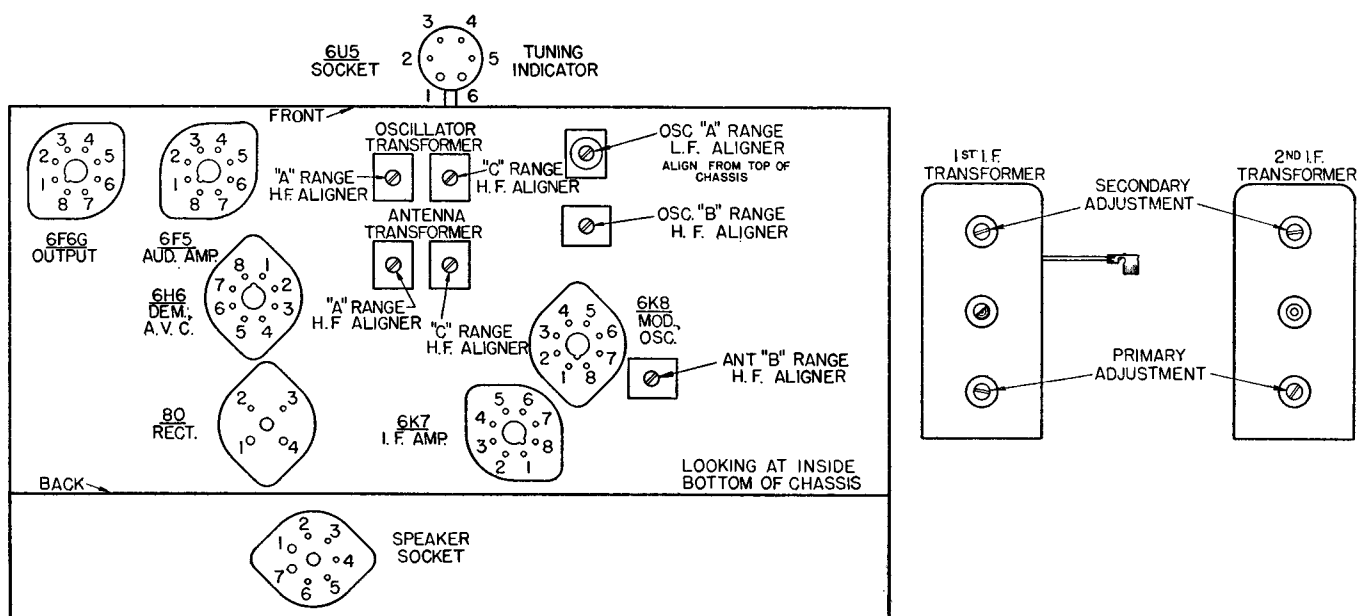

Fig. 1. Terminal Layout for Voltage Measurement Chart and Location of the Aligning Capacitors.
The values of voltages listed in the following table are obtained by measuring between the various tube socket contacts and the chassis base, with the tubes in their respective sockets. The receiver is, therefore, in full operation when the measurements are made. Figure 1, shows the terminal layout of the sockets with the proper terminal numbers.
IMPORTANT: In making any R. F. or I. F. alignment adjustments, always adjust the test oscillator's output voltage to the minimum value where a good alignment may still be obtained. Never attempt to make any alignment adjustments using a strong signal. Before proceeding with the alignment of any R. F. or I. F. circuits in these receivers be sure that the "Off-On-Tone" control knob is set for maximum treble response (position where knob is rotated from its maximum counter-clockwise position, slightly clockwise to position where set turns "on"), and that the Electric Tuning Set-Up Switch, located on the rear of the chassis base, is rotated to the "Set-Up" position. When the aligning adjustments have been completed the Electric Tuning Set-Up Switch should be rotated back to the "Operate" position. Figure 1, shows the location of all the aligning capacitors in these receivers.
3. Now, noting from Figure 1, the aligning capacitors for the first and second I. F. transformers, align the I. F. circuits in the following manner: